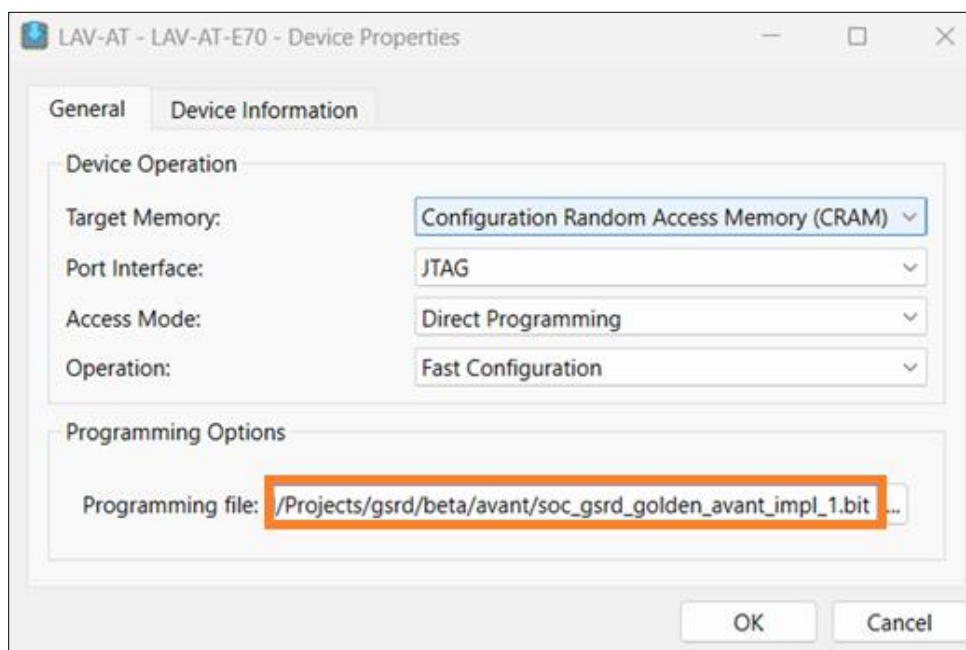

Figure 6.21. Device Properties to Program the FPGA Bitstream in CRAM
18. To program the FPGA Golden GSRD bitstream, double-click on the **Operation** tab to update the selections as shown in Figure 6.21. Make sure to provide the path to the .bit file location on your local machine where you have unzipped the executables.